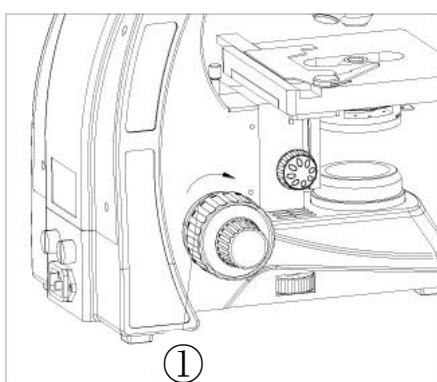

**Fig. 13**
**NOTE:** *do not counter rotate the focusing knob as this will cause severe problems and damage to the focusing system. (Fig. 13)*